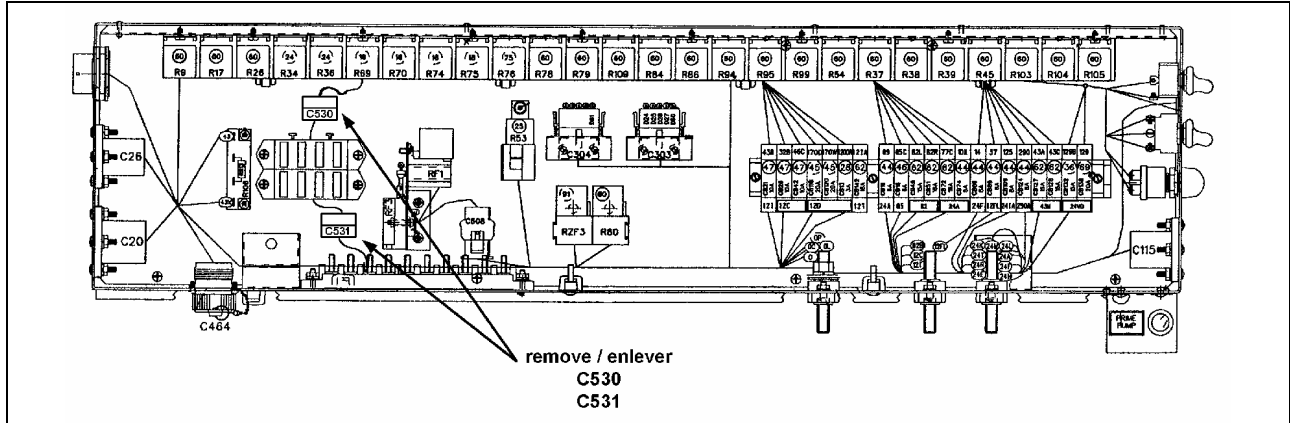

FIGURE 1: REAR JUNCTION BOX INSIDE ENGINE COMPARTMENT (XLII)
1. **XLII SERIES:** Open the rear junction box cover inside the engine compartment. Locate connector C530 & C531 (figure 1).